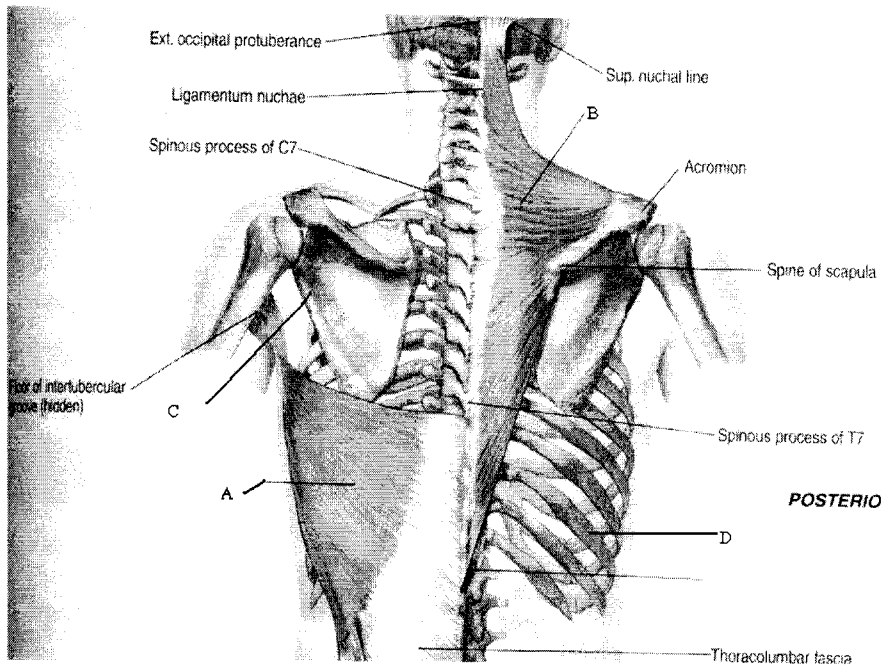

Figure 3: Muscles & bones of trunk
1.3. According to Figure 3, What are names of muscles A and B?
1.4. According to Figure 3, What are names of bones C and D?